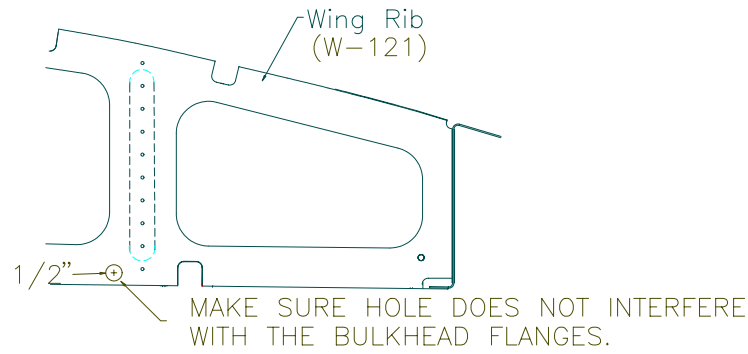

Figure 8.20.2
- 7) Drill 1/2" fuel flow holes into the lower rear most point of the Wet Tank area. These holes will allow fuel flow between the bays. Figure 8.20.2.